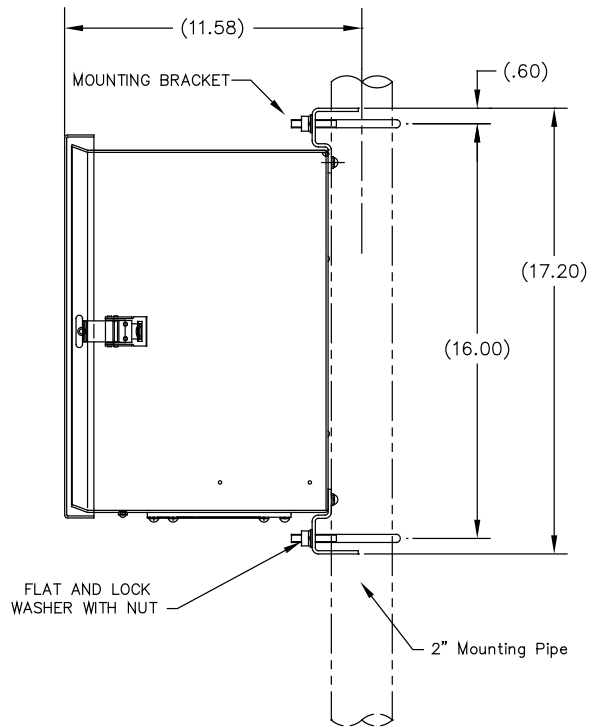
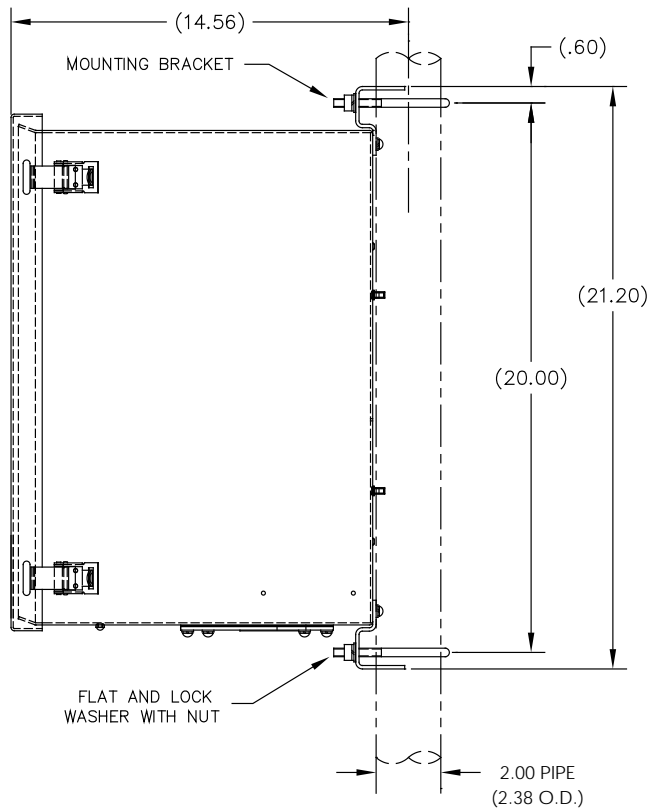
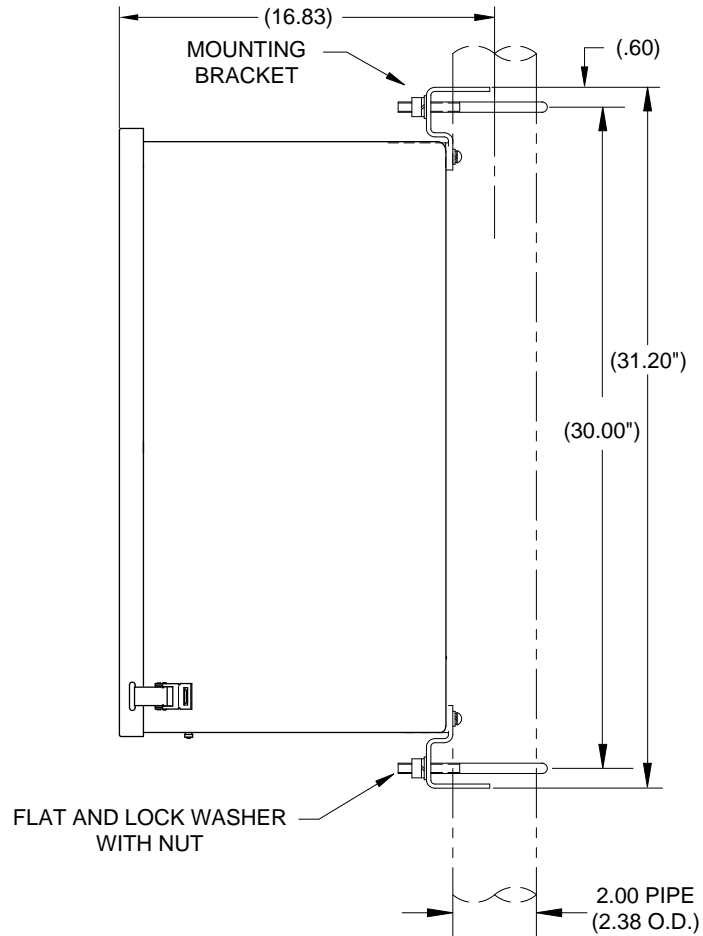

Figure 3-59 6200 Enclosure Pipe-Mounting Installation
Figure 3-60 6700 Enclosure Pipe Mounting Installation
Figure 3-61 6800 Enclosure Pipe Mounting Installation
Enclosure mounting brackets and fastening hardware are supplied with the unit. The customer must provide 2" pipe of suitable length (see Figure 3-59).
- 3) Position the unit on the 2" mounting pipe and secure in place with two U-bolts, split washers, flat washers and two bolts (see Figure 3-59, Figure 3-60 and Figure 3-61).